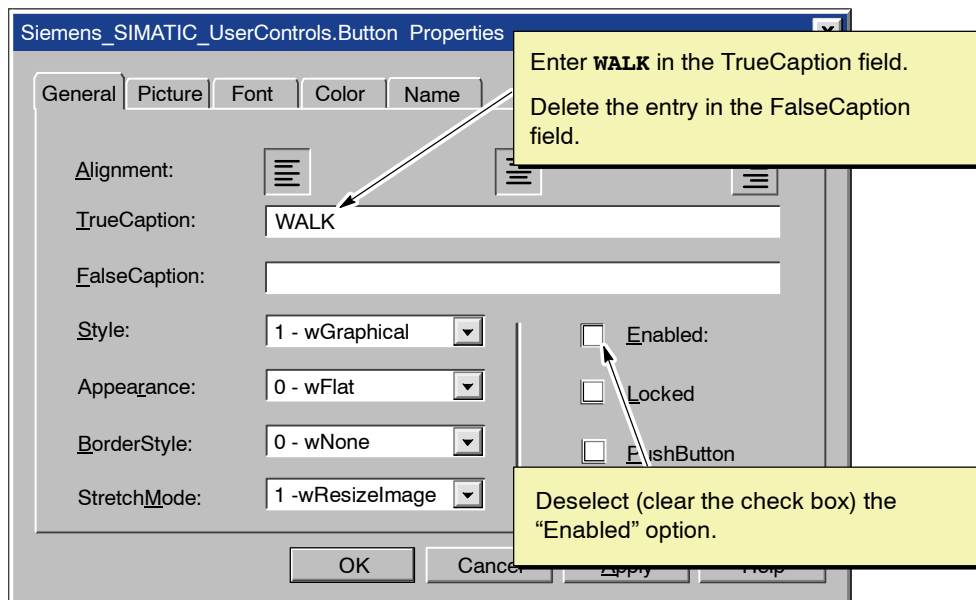

Figure 3-21 Configuring the Caption for Button2 (Button Control 2)
4. As shown in Figure 3-21, modify the labels (captions) for the control:
5. Click on the check box for the Enabled property and deselect this property. See Figure 3-21.